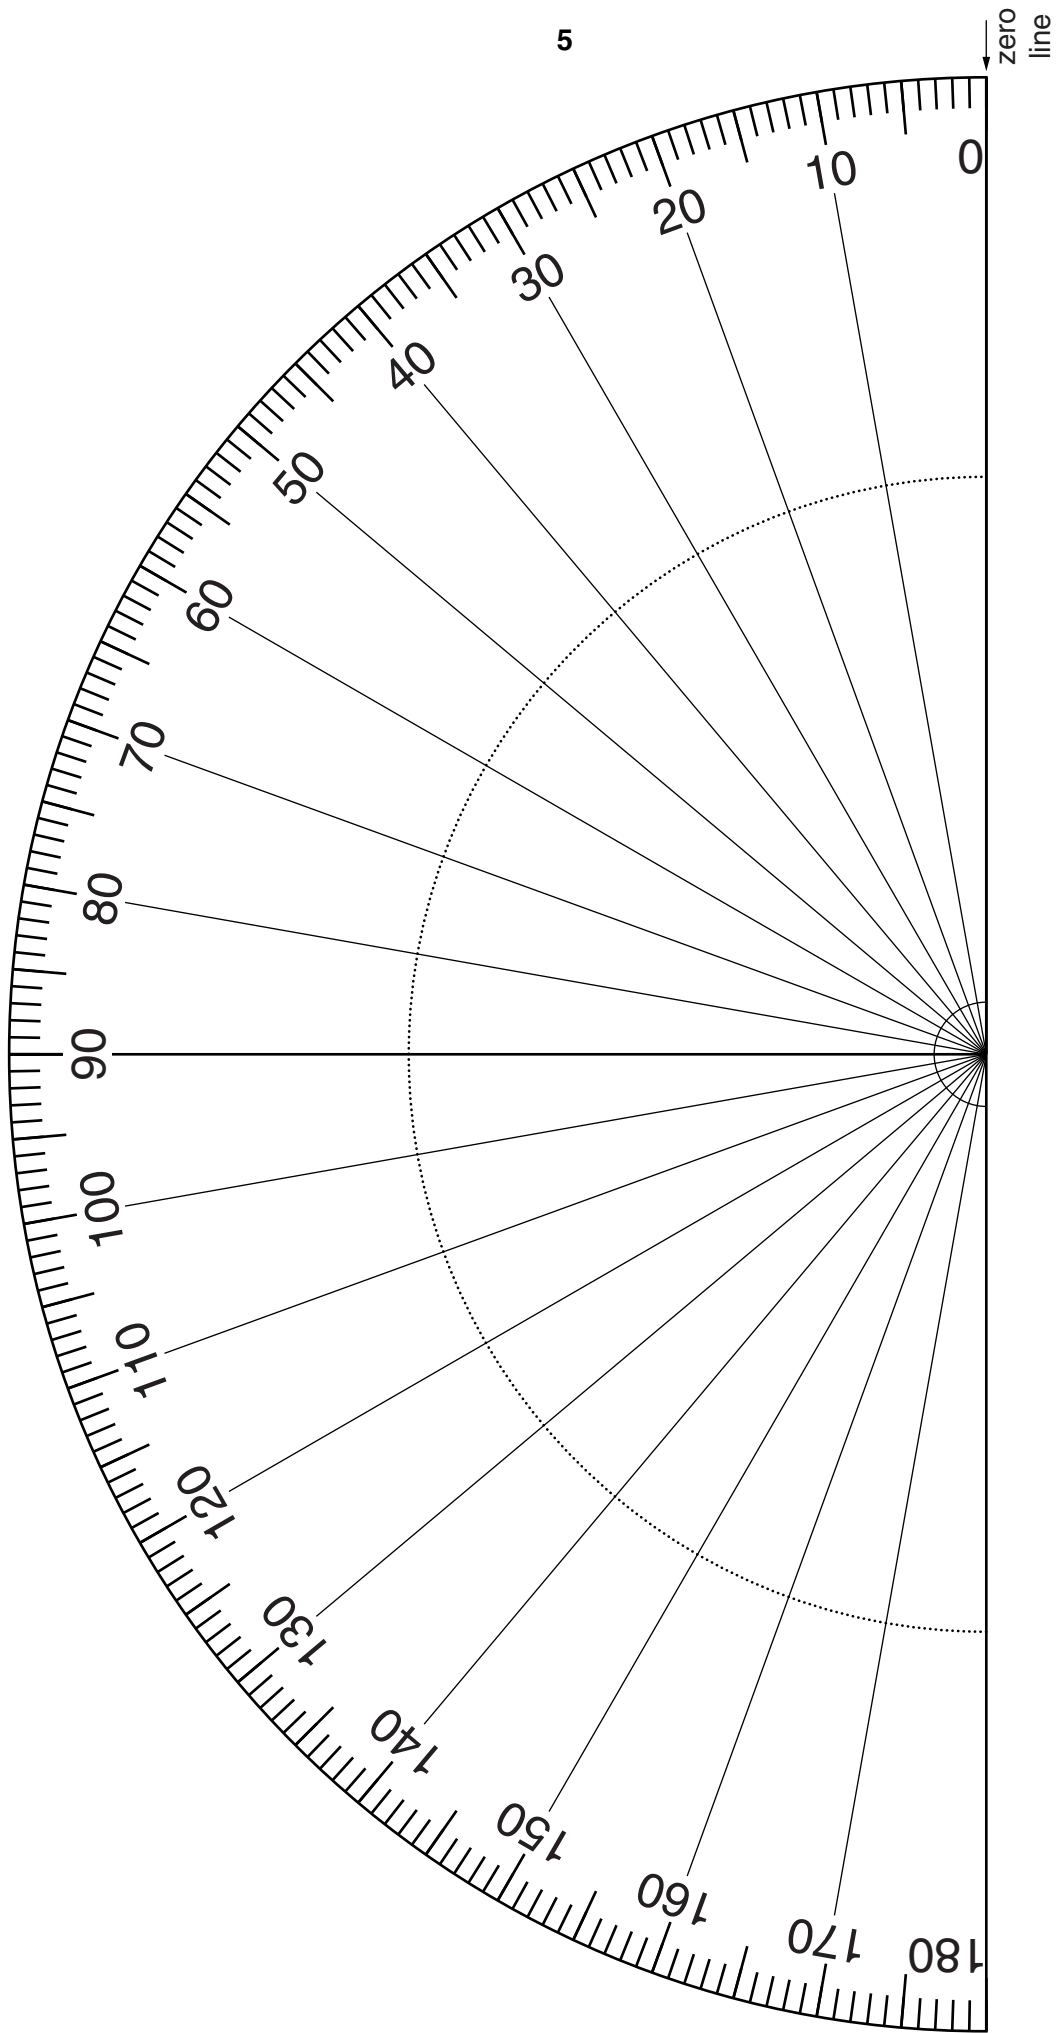

Fig. 1.2
- 3 The protractor should be made by photocopying Fig. 1.2, fixing the copy to a thin card and cutting along the zero line.